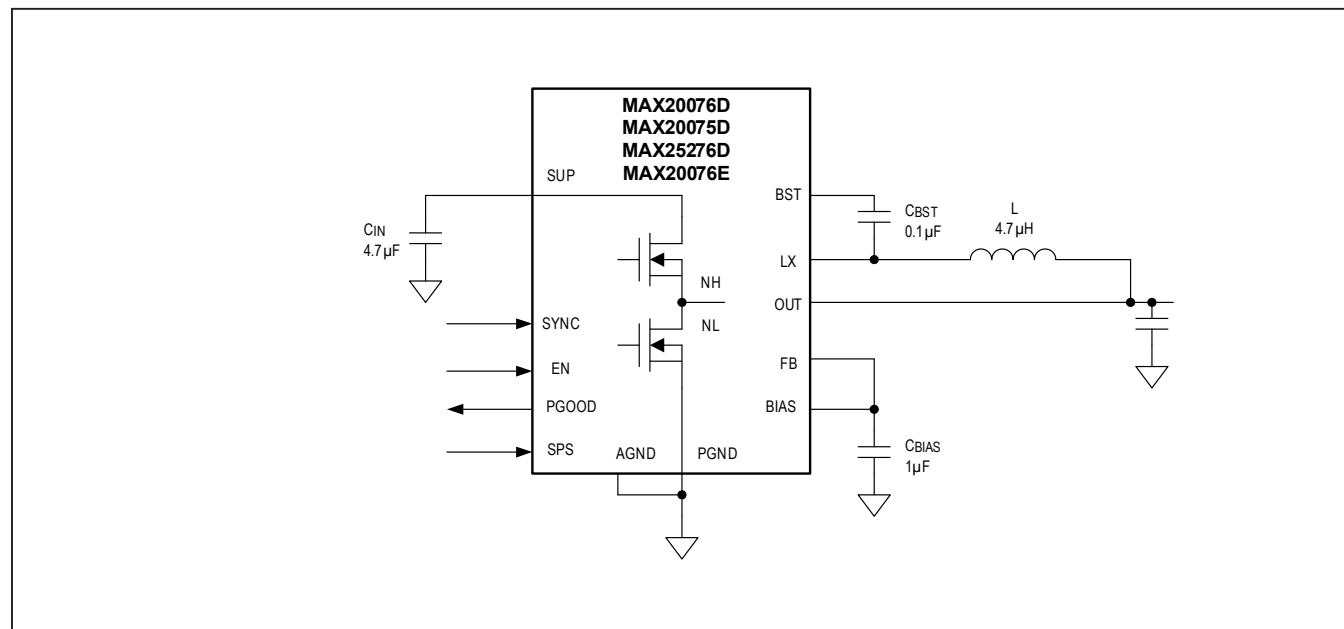
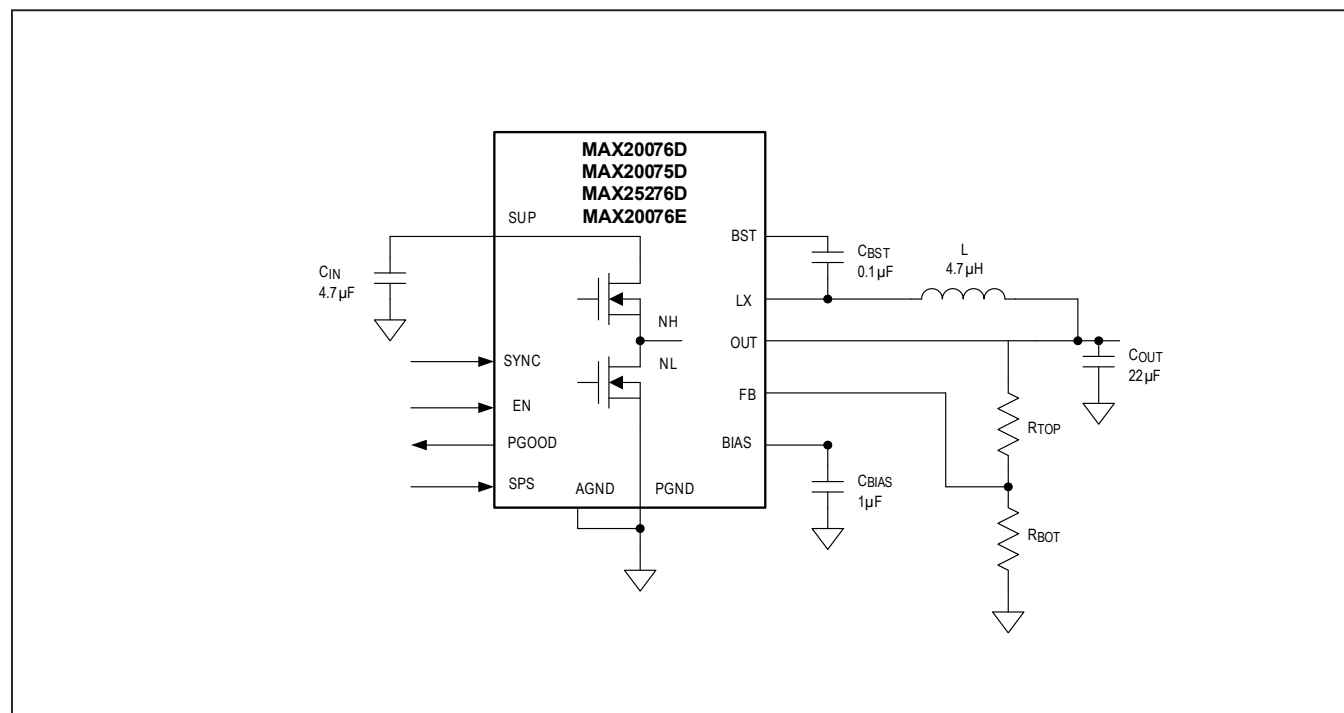

Figure 2. MAX20075D/MAX20076D/MAX20076E/MAX25276D Application Circuit with Fixed Output Voltage
Figure 3. MAX20075D/MAX20076D/MAX20076E/MAX25276D Application Circuit with External Resistor-Divider to Set Output Voltage
- 1) The input capacitor (4.7μF, see Figure 2, Figure 3, and Figure 4) should be placed right next to the SUP pin. Since the MAX20075D/MAX20076D/MAX25276D operate at 2.1MHz switching frequency, this placement is critical for effective decoupling of high-frequency noise from the SUP pins.